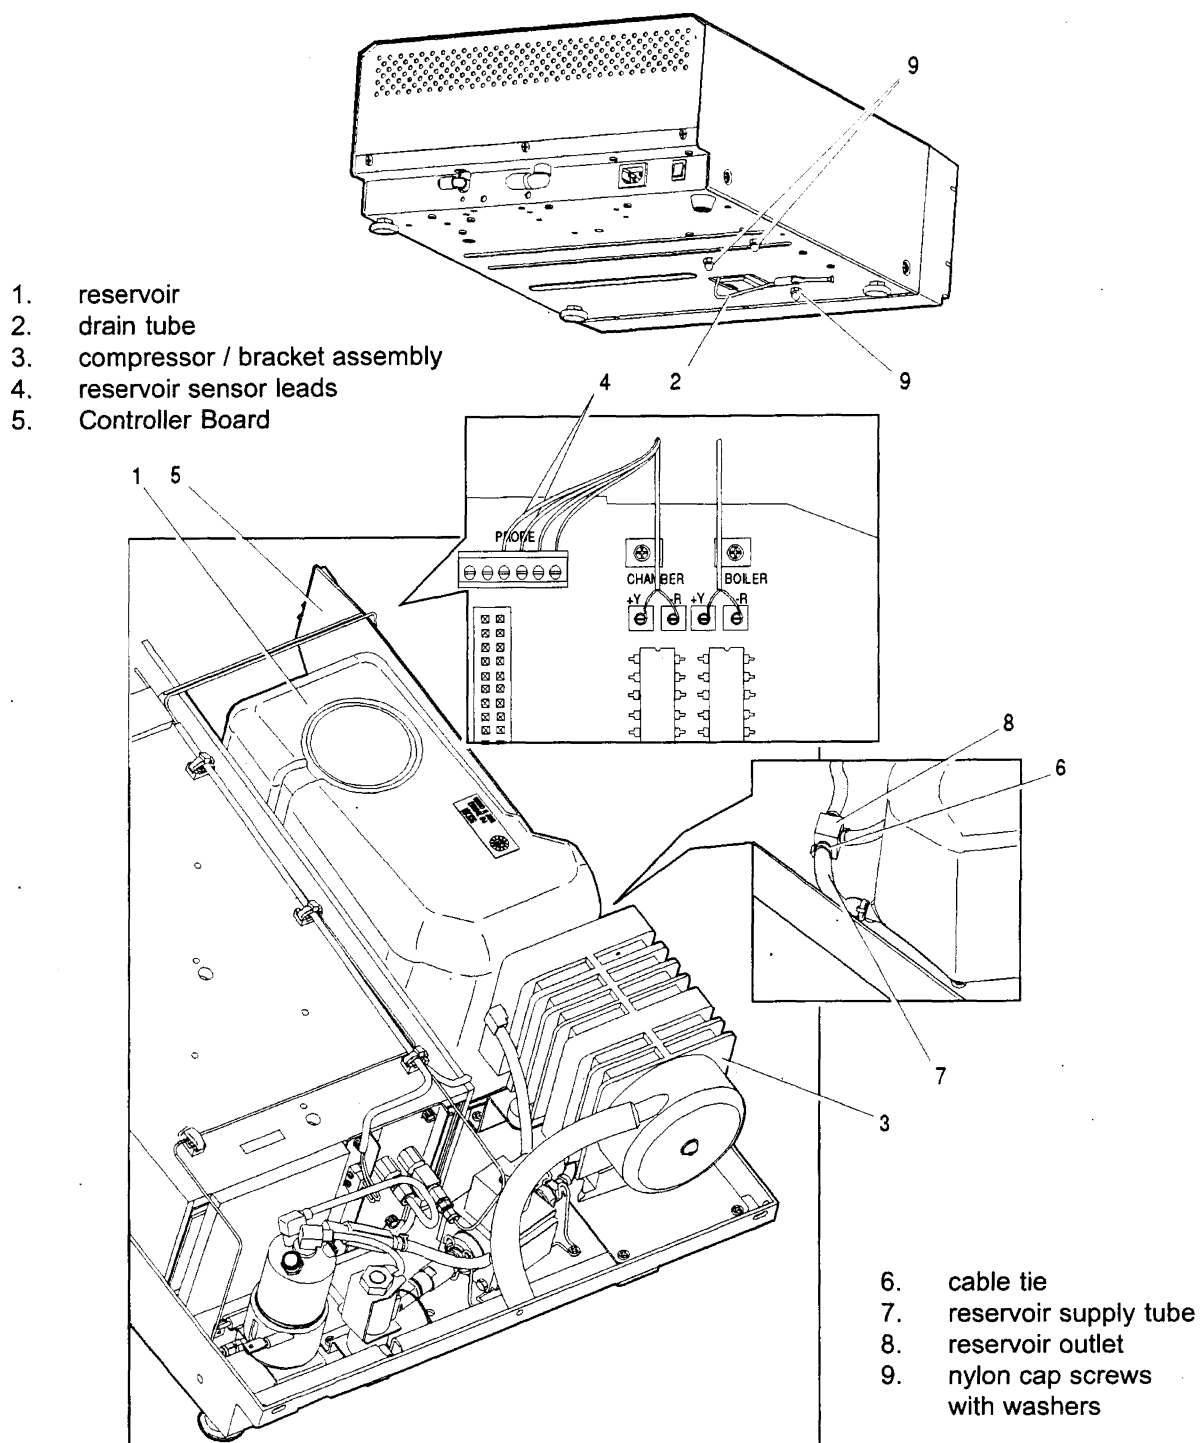

Figure 1
To remove the reservoir (1), follow these steps (see Figure 1):
1. Drain the reservoir using the drain tube (2) on the bottom of the unit. See *Draining the Reservoir*.
2. Remove the compressor / bracket assembly (3). See, *Compressor Removal and Installation*. Retain all screws.
3. Cut the necessary cable ties and remove the reservoir sensor lead (4) from Controller Board (5) terminal positions labelled PROBE.
4. Cut the cable tie (6) securing the reservoir supply tube (7) to "T"-fitting (8) located beneath the compressor / bracket assembly and remove the tube from the fitting.
5. Locate and remove three nylon cap nuts with washers (9) on the bottom of the chassis securing the reservoir. Retain the cap nuts and washers.
To replace the reservoir, follow these steps (see Figure 1):